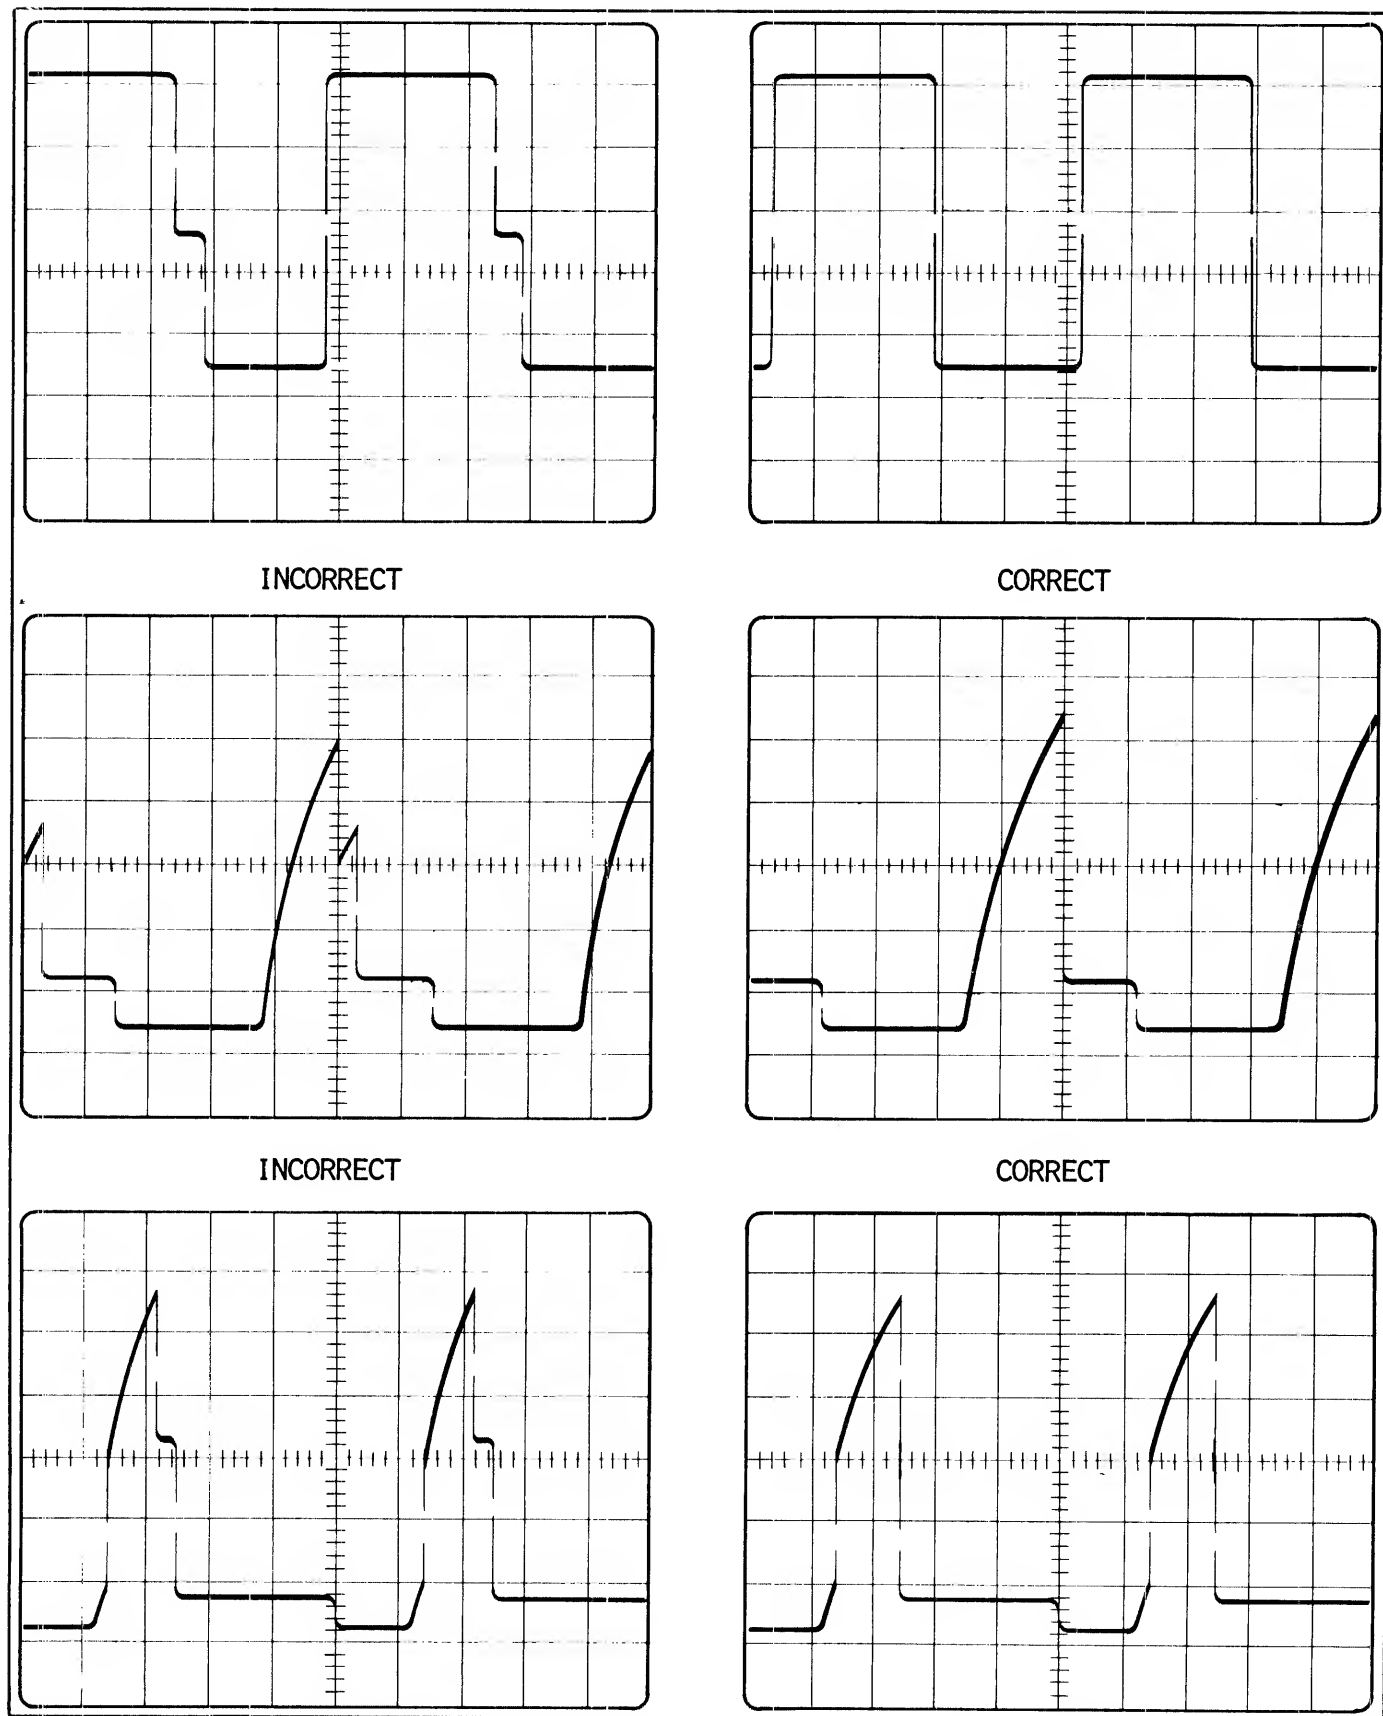

Figure 5-8. Skew Waveforms
5-34. FORWARD STATIC SKEW COMPENSATION ADJUSTMENTS. The techniques for rapid adjustment and for evaluating the need for adjustment differ. Figure 5-8 shows poor skew alignment and proper skew alignment. To adjust static skew compensation proceed as follows:
- c. Connect the oscilloscope channel A probe to the SKEW test point of the reference channel (2). Connect the oscilloscope channel B probe to each SKEW test point in succession and algebraically add oscilloscope channels A and B.
- e. Adjust each channel skew delay variable resistor for a maximum displayed amplitude and test waveform as shown in figure 5-8.